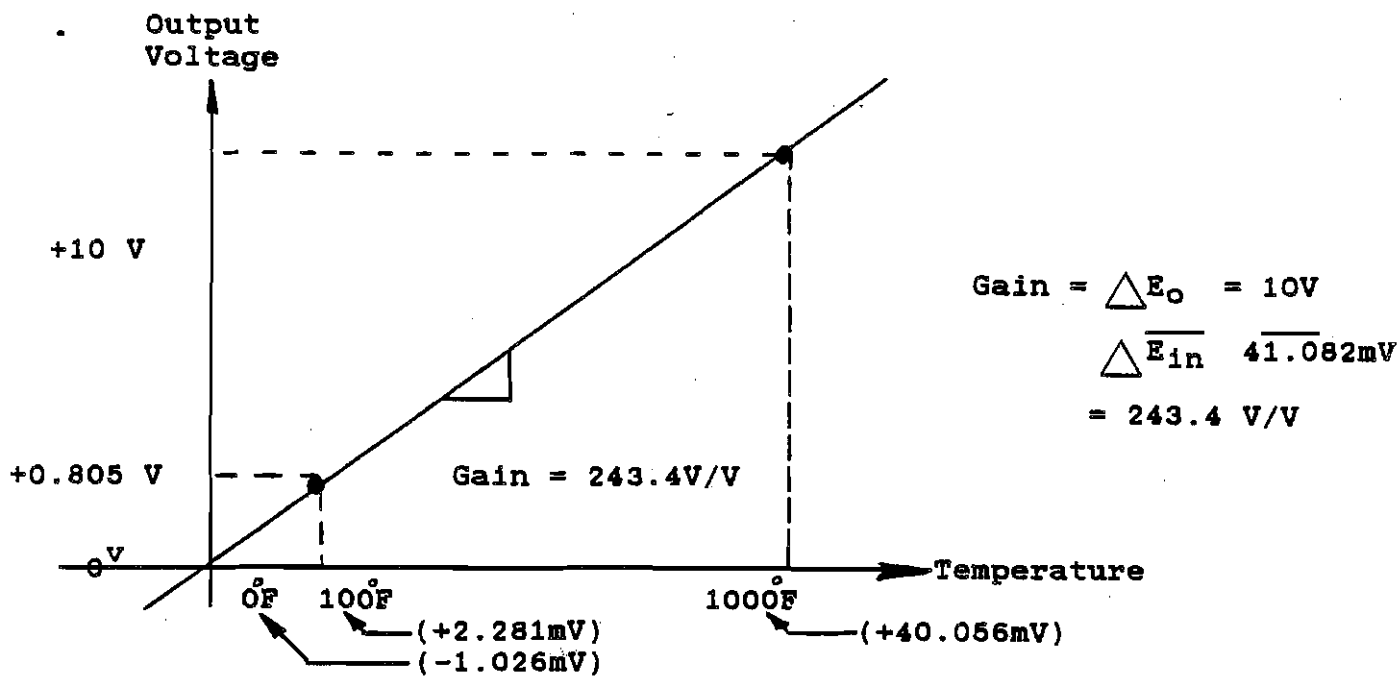

Figure 3-2: Zero and Gain Calibration Example
The easiest method for setting the zero and gain adjustments for the TC387 is to first calculate the needed span and make the adjustments using a precision dc signal source at the input. As an example, if a type E thermocouple is to be used between 0°F and 1000°F , and the TC387 is to provide 0 Vdc at 0°F and +10.0 Vdc at 1000°F , the gain is calculated: (See Figure 3-2)
5. Measure the temperature at the active thermocouple location. Using the thermocouple tables, look up the thermocouple signal voltage for that temperature. In our example, illustrated in Figure 3-2, assume the active thermocouple is measured to be at 100^oF. The type E thermocouple signal is 2.281 mV per the TC tables. The input signal change from 0^oF to 100^oF is 3.307mV, which gives a 0.805Vdc output after the gain of 243.4V/V. If the output is greater than \pm 0.05Vdc away from the calculated value of 0.805Vdc, the reference junction Tc zero control R28 needs readjustment as described in section 4.2.